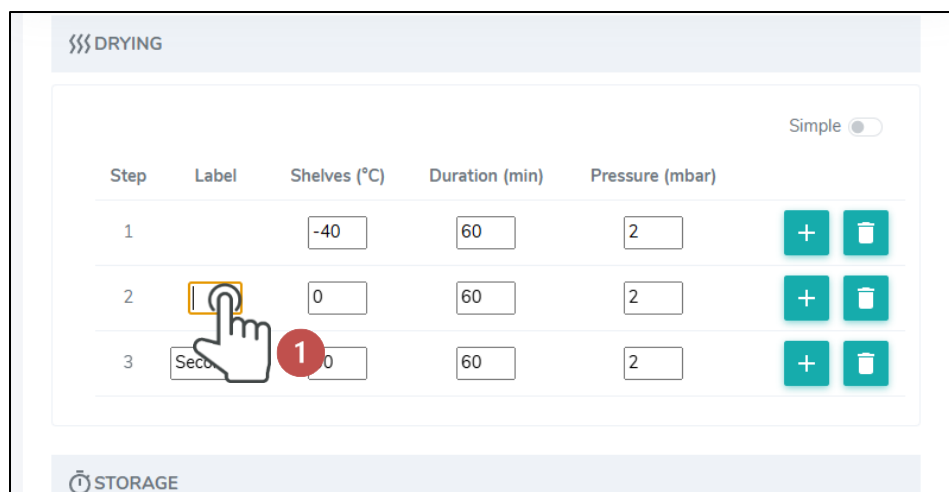

Figure 68
In the Drying stage (Figure 68), drying steps can be added by tapping the plus icon (+). These steps run sequentially and consist of duration, shelf, and pressure setpoints. Labels can also be specified for each step by tapping invisible label text boxes (1). To remove a step, tap the bin icon (🗑️).